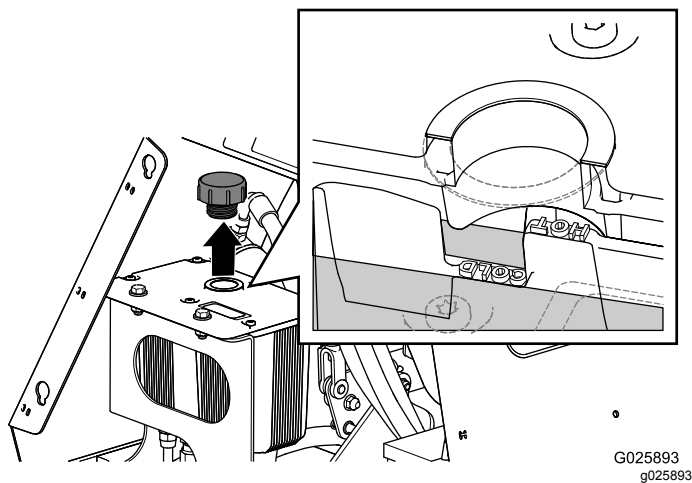

Figure 54
5. Clean the area around the hydraulic reservoir cap (Figure 54).
6. Remove the cap and check hydraulic-fluid level in the reservoir (Figure 54).
7. If necessary, add the specified hydraulic fluid to the reservoir until the fluid covers the **Cold** fluid level on the baffle (Figure 54).
8. Replace the hydraulic reservoir cap and tighten it until it is snug (Figure 54).